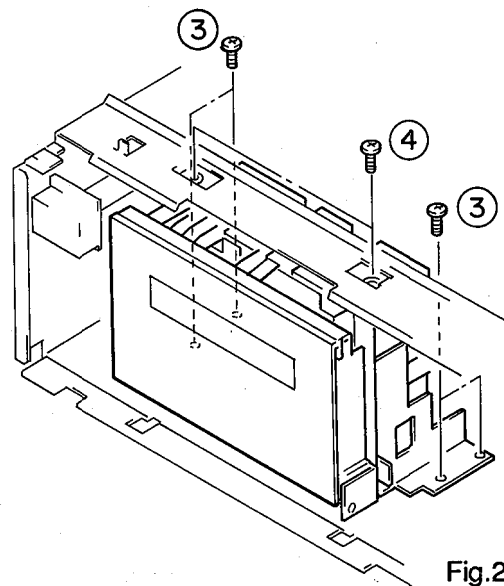

Fig.2
- a. Remove the 4 screws(③) and the 2 screws (④) in fig. 2.